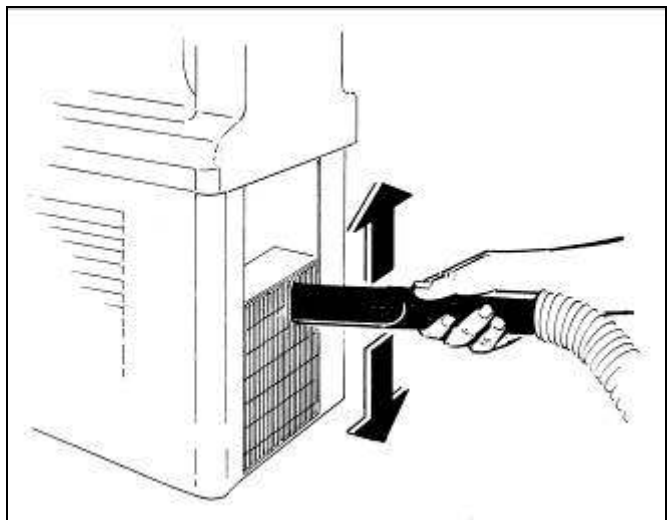

Fig. 27
- Using a dust exhauster, remove the dust that has collected between the condenser fins (fig.27).